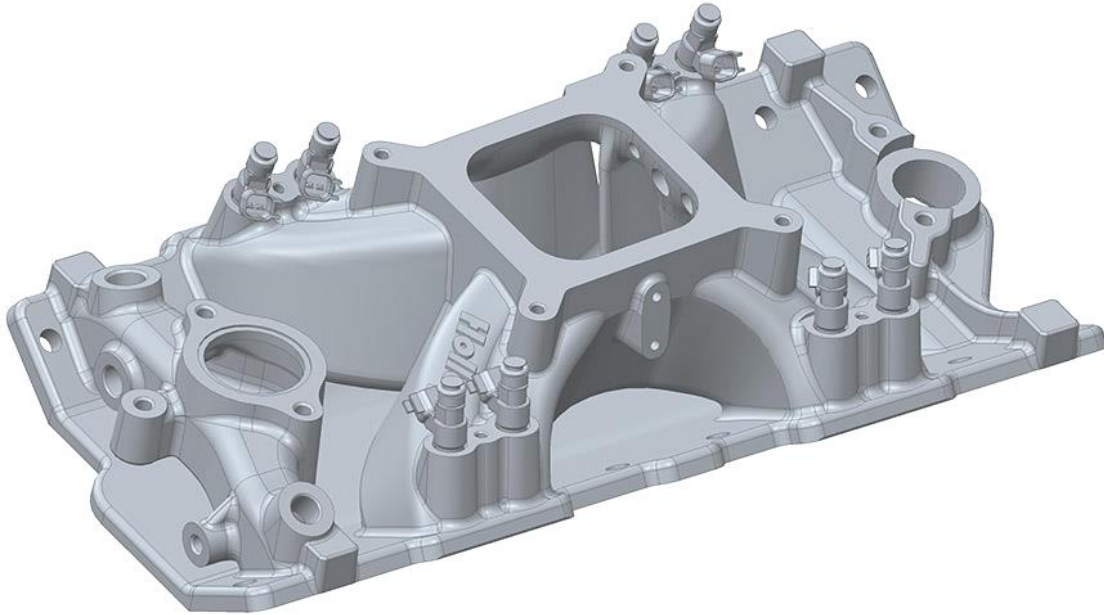

Figure 2
6. Apply a silicone lubricant to each fuel injector O-ring and insert injectors into the ports of the manifold. To avoid interference of the injector wiring harness with the throttle cable, orient injector connectors as shown (**Figure 2**).